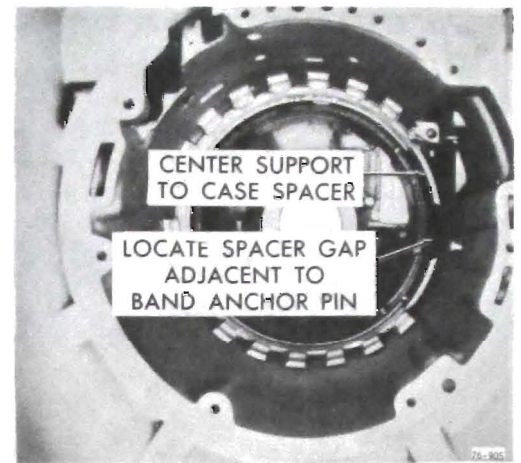

Figure 76-556A
21. Remove support to case spacer. See Figure 76-556A.